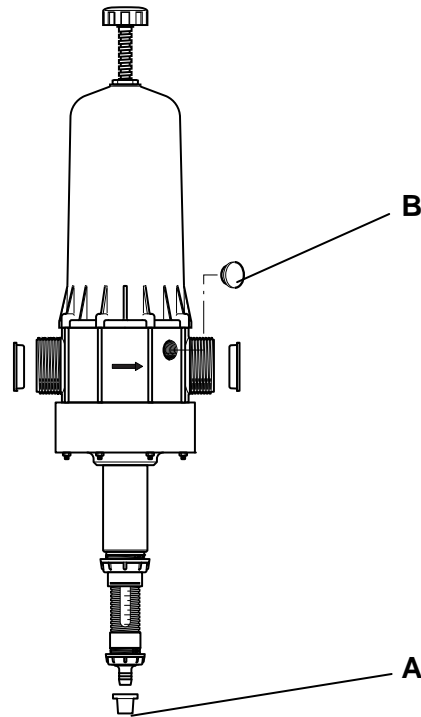

Fig. 1
- Remove the protective caps from the water inlet and outlet of the injector and bi-turbo block, from the injector concentrate intake (**Fig. 1 - A**) and from the body (**Fig. 1 - B**).